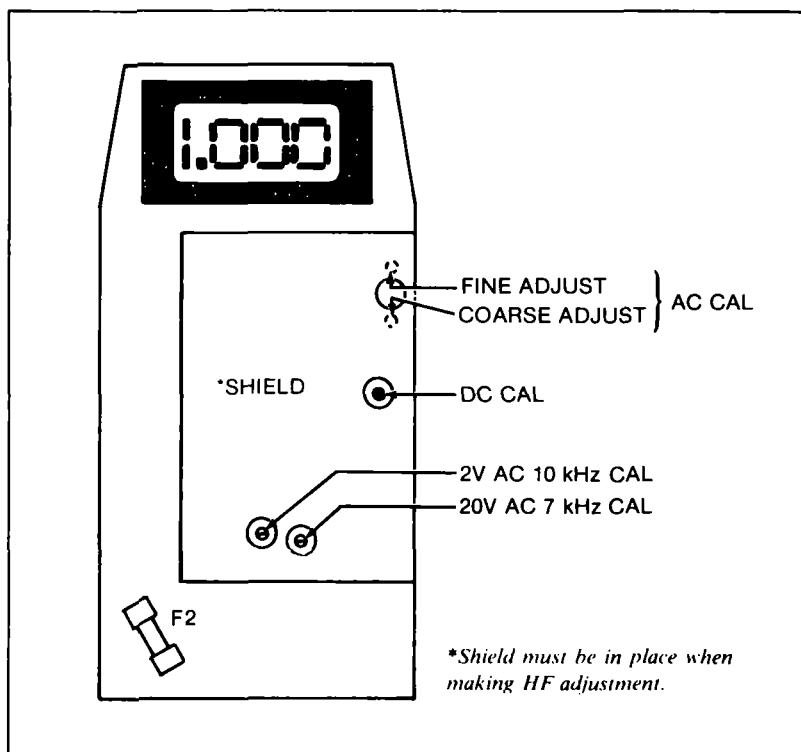

Figure 4-1. Calibration Adjustment Locations
6. Backup Fuse (F2) and all adjustments necessary to complete the calibration procedure are now accessible (see Figure 4-1).